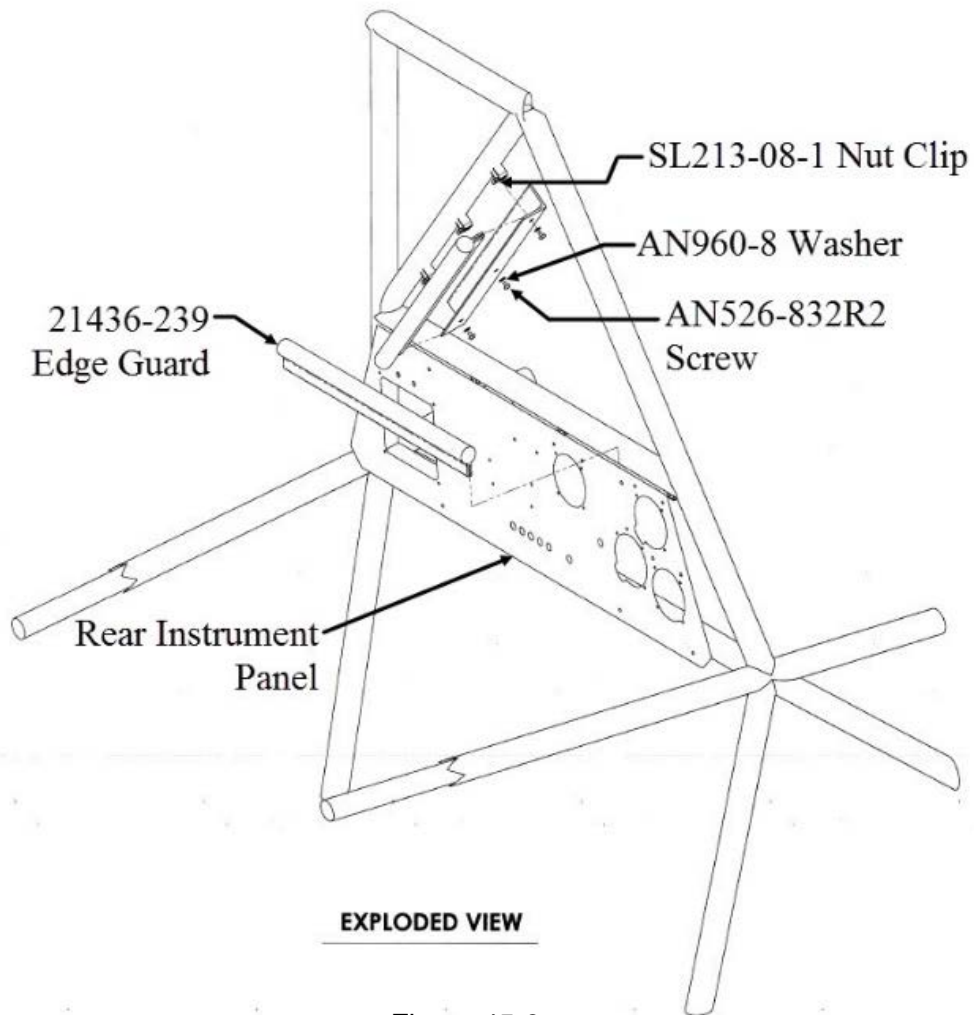

Figure 45-3
- a) Insert top edge guard in angle flange as shown in Figure 45-3.